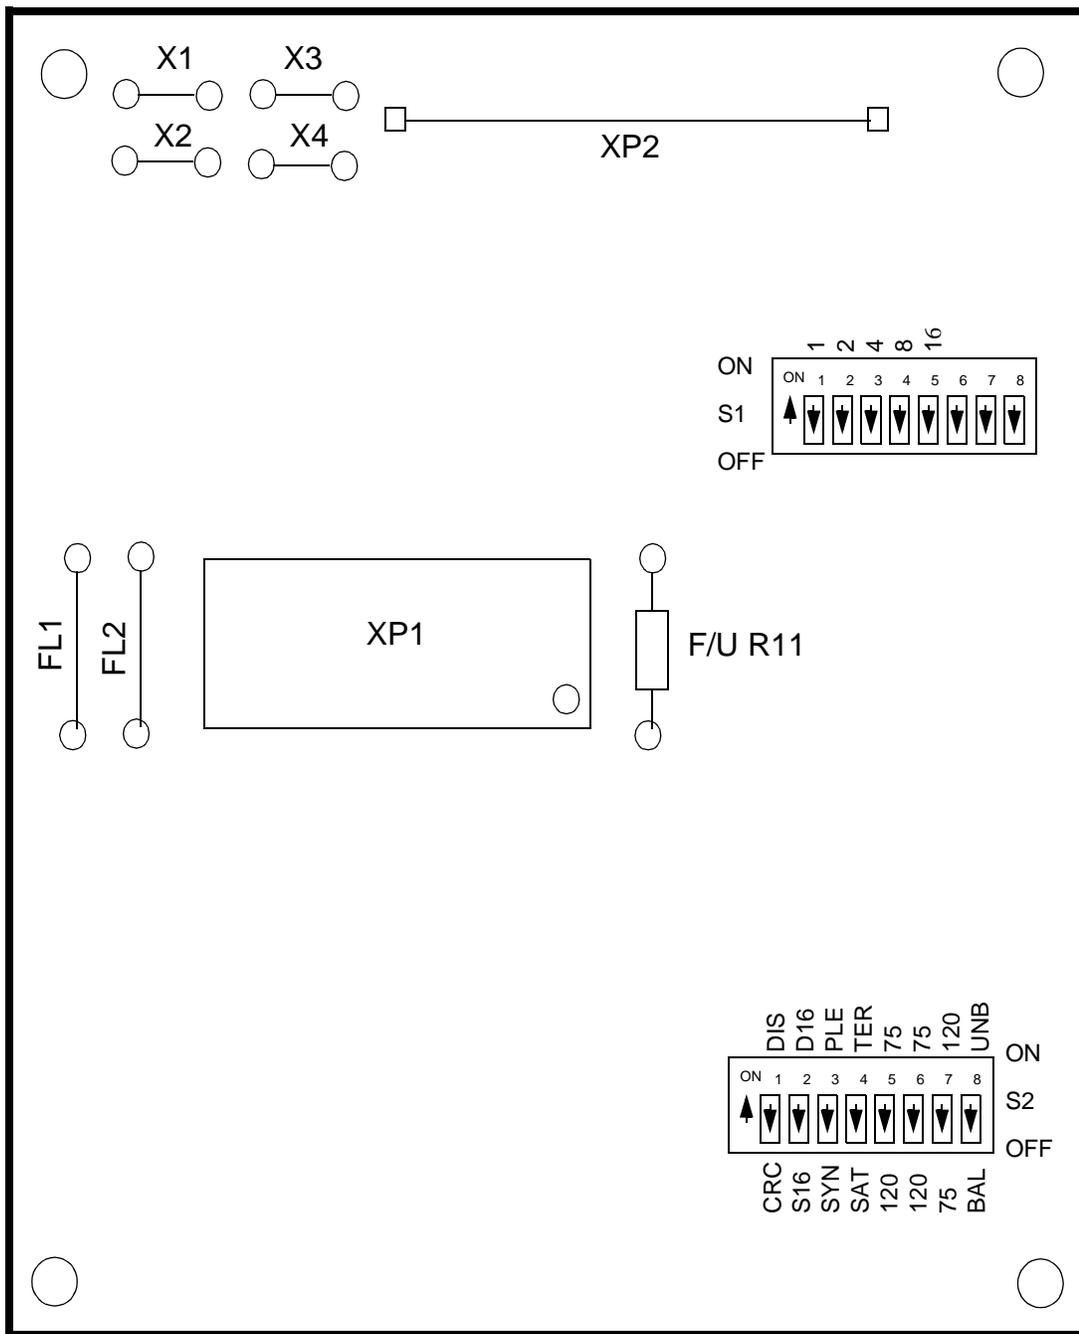

Figure 2-9 G.704 Aggregate Interface Piggyback Card (036P281-001)
Using Switches S1 and S2 on the G.704 Aggregate Interface Piggyback Card, CRC4 multiframe, time Slot 16, synchronous/plesiochronous clocking mode and the elastic buffers may be selected in addition to the Transmit/Receive impedance at the aggregate and the line balance (*Figure 2-9*). *Table 2-14* defines the option selections and describes the application of each. *Table 2-15* shows the buffer size/delay time of the plesiochronous buffers.
- Receive End — To connect RCVDATB to Signal Ground, move DIP Switch S2-8 on the G.704 Aggregate Interface Piggyback card to the UNB or closed (ON) position.
- Transmit End — To connect XMTDATB to Signal Ground, solder a zero ohm resistor (or a simple wire link) to future use resistor R11 (F/U R11) located on the right hand side of connector XP1 (*See Figure 2-9*).